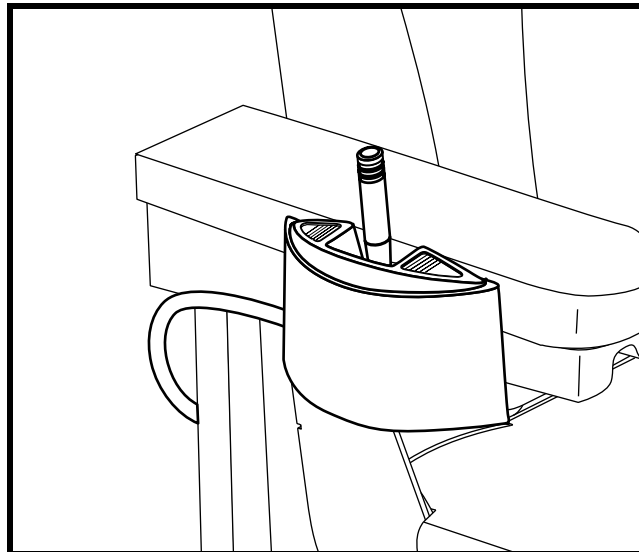

Figure 26. Power Seat Toggle Switch (Shown on Armrest)
1. Press forward on the toggle switch to raise the seat. See **figure 26**.